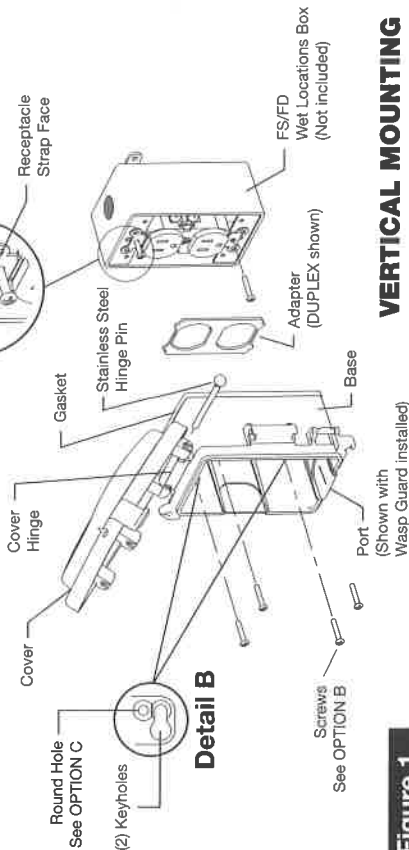
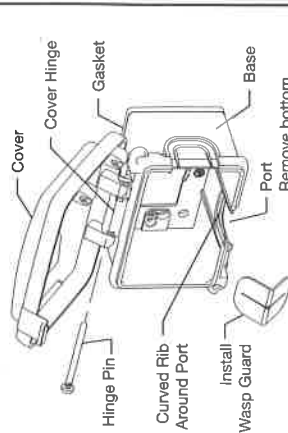

Figure 1
Figure 2
- INSTALL WASP GUARD.** Determine desired mounting (Figures 1 & 2). Remove (break-out) knockout from bottom PORT of base using pliers. Remove protective backing from adhesive side of rubber WASP GUARD. Position and place adhesive side on outside of curved rib in open PORT. Carefully fold WASP GUARD along top surface and secure to inside of curved rib in open PORT (see Figure 1, 2 & 3).
- DETERMINE DESIRED ADAPTER, SWITCH:** use either Round/Switch Adapter: ROUND RECEPTACLE: Select Round 1-3/8" or 1-9/16" Adapter and remove inner circle. If 1-9/16 Round receptacle is used, break-away and trim curved sections from BASE. GFCI: no adapter is needed. DUPLEX: use Duplex Adapter (Figures 1 & 4).
Use for Flush Mount and Wet Locations Box installations. Attach BASE using receptacle screws. Vertical Mounting (Figure 1) or Horizontal Mounting (Figure 2).
NOTE: Position BASE with COVER HINGE on top and open PORT on bottom. Attach receptacle to box by loosely inserting the receptacle screws into the box. Thread screws until heads extend 5/8" from receptacle strap face (Figure 1, Detail A). Push adapter pin(s) into receptacle or switch (Figures 4 & 5). Place BASE keyholes over receptacle/ or /switch screws (Figure 1, Detail B). Make certain gasket overlaps box edges and tighten screws to secure BASE.
Verify GFCI is securely fastened to box. Insert (2) screws (furnished) through top and bottom ROUND holes (Figure 1, Detail B) in BASE into threaded holes in GFCI. Make certain gasket overlaps box edges and tighten screws to secure BASE. See steps 5, 6 & 7.